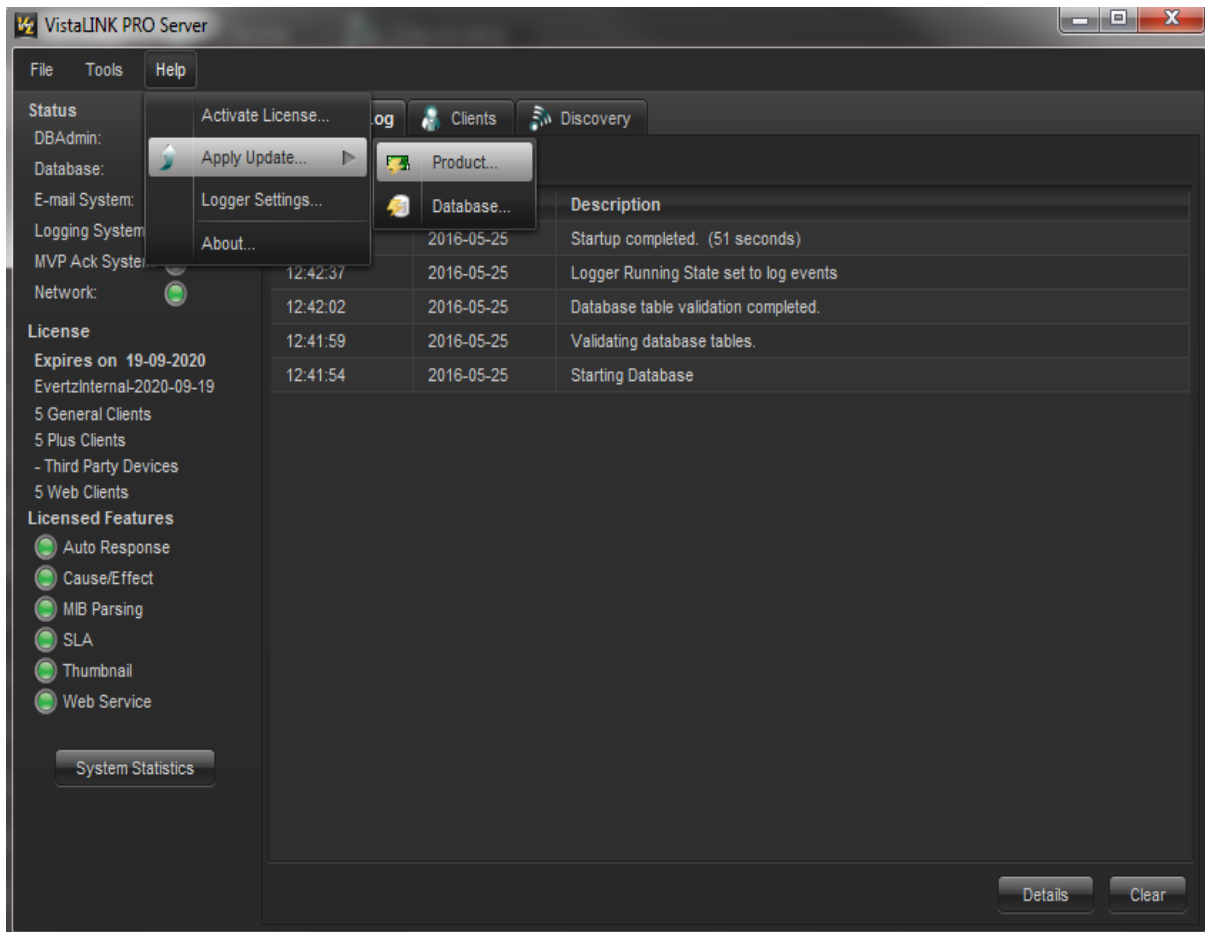

Figure 5-1 : VistaLINK® PRO - Updating Jar file
- On the main page of VLPro Server, select **Help** on task bar then choose **Apply Update** and **Product**.(Figure 5-1)